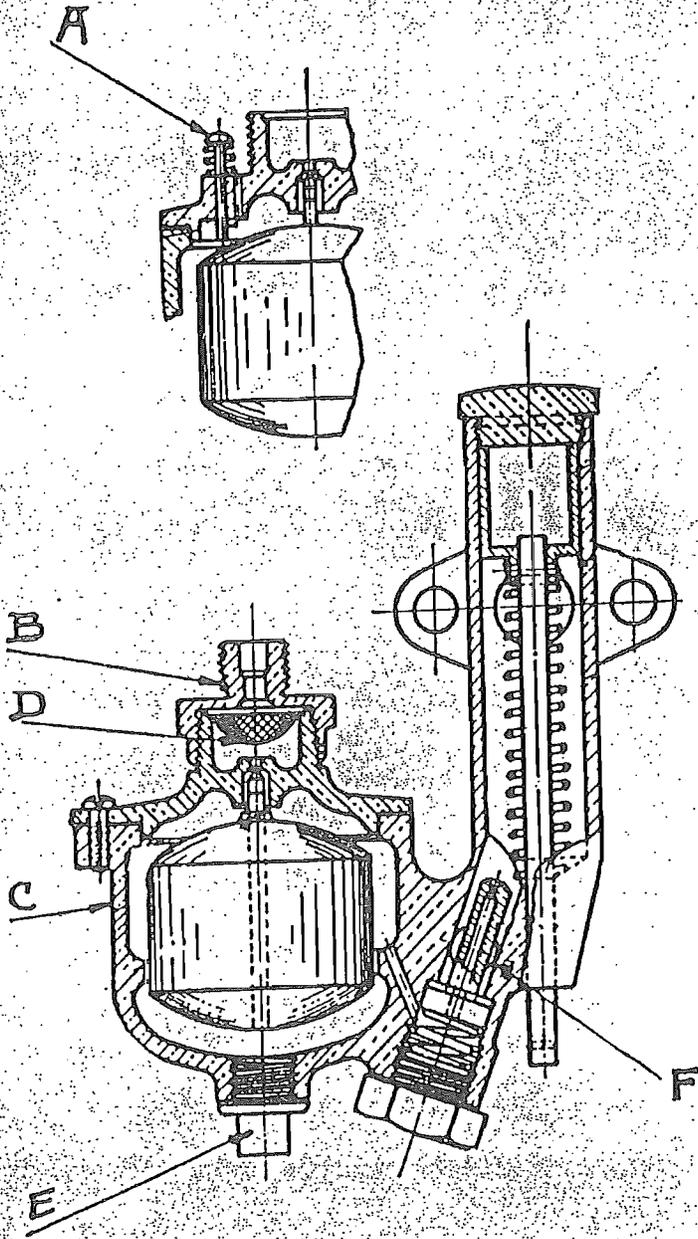

Fig. 1
Every motor is tested before leaving our plant. In cold weather the carburetor may be flooded to assist in easy starting by holding down the flooding pin (A), Fig. 1. The Cap (B) of carburetor float chamber (C) contains a wire gauze strainer (D), which should be cleaned once every two or three months. At the same time it is a good plan to drain float chamber (C) by unscrewing plug (E).
6. If spray nozzle jet is clear, gasoline will trickle out of holes (F), Fig. 1, when flooding pin (A) is depressed.
2. Drain carburetor by unscrewing plug on lower end of float chamber. See (E), Fig. 1. Also read instructions under heading "Motor Working in Jerks."